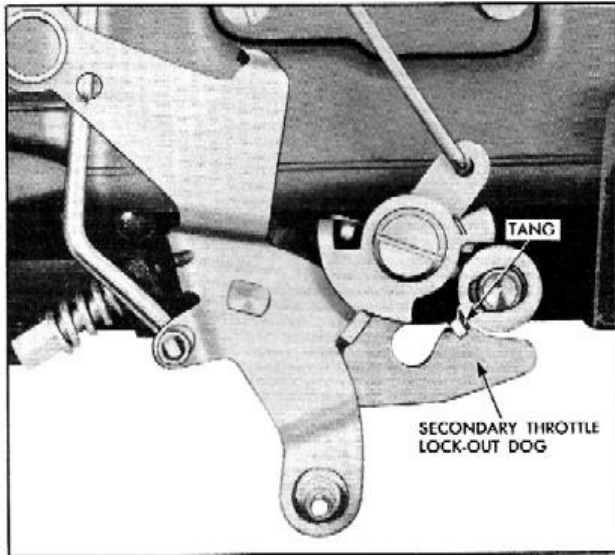

Fig. 26 Secondary Throttle Lockout Adjustment
g. Secondary Throttle Lockout Adjustment-Fully open choke valve, then open both primary and secondary throttle valves by fully depressing accelerator pedal to floor. Close choke valve and hold shut, then release accelerator pedal (closing throttle valves). Tang on secondary throttle shaft should freely engage notch in secondary lockout dog, Fig. 26. If necessary, bend tang to permit free engagement.